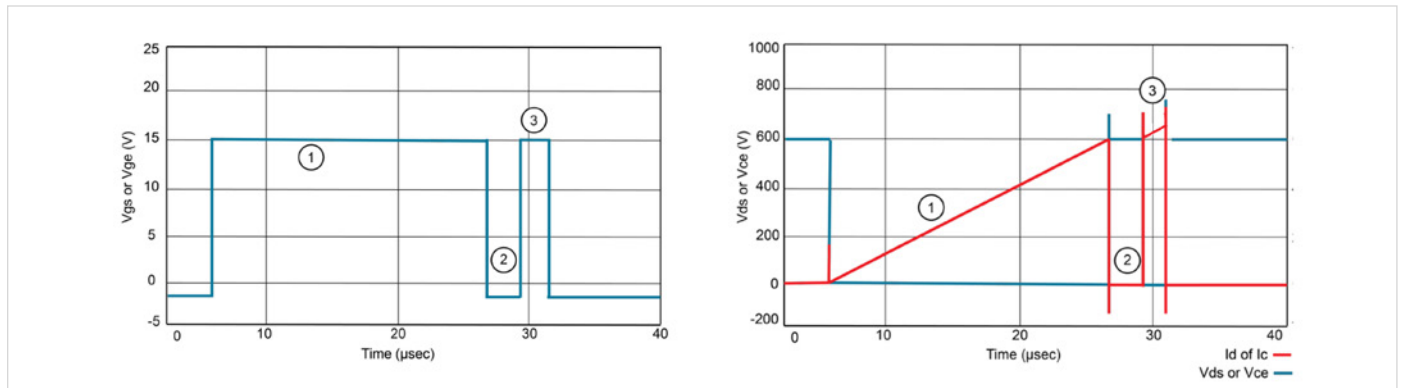

**Figure 6: Current Flow with MOSFETs as DUTs.**
**Figure 6** shows the current flow within the different stages of the test for a Double Pulse Test with MOSFETs. The same current flow would apply when using IGBTs as shown in **Figure 7**.
**Figure 8** shows typical measurements taken on the low side MOSFET or IGBT. Here are the different stages of the Double Pulse Test (These stages refer to **Figures 6, 7 and 8**)
- The second step (2) is to turn-off the first pulse, which creates current in the free-wheeling diode. The turn-off period is short to keep the load current as close as possible to a constant value through the inductor. **Figure 8** shows  $I_D$  on the low side MOSFET that goes to zero in step 2; however, the current is flowing through the inductor and the high side diode. This could be seen in **Figures 6 and 7**, as the current flows through the diode of the high side MOSFET (the MOSFET that doesn't get turned on).